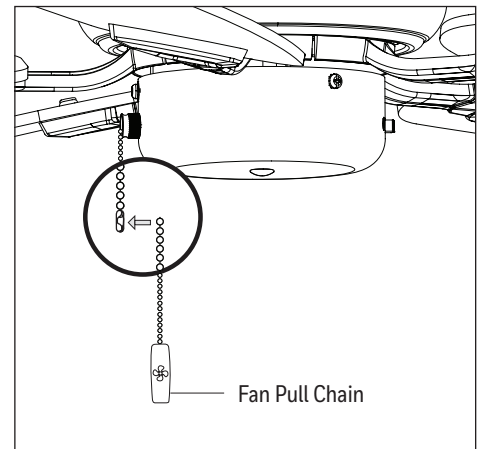

Figure 3.3
3. Attach the pull chain extension (Figure 3.3). Turn on power to fan at breaker box and the wall switch (Figure 3.3). Assembly is complete.